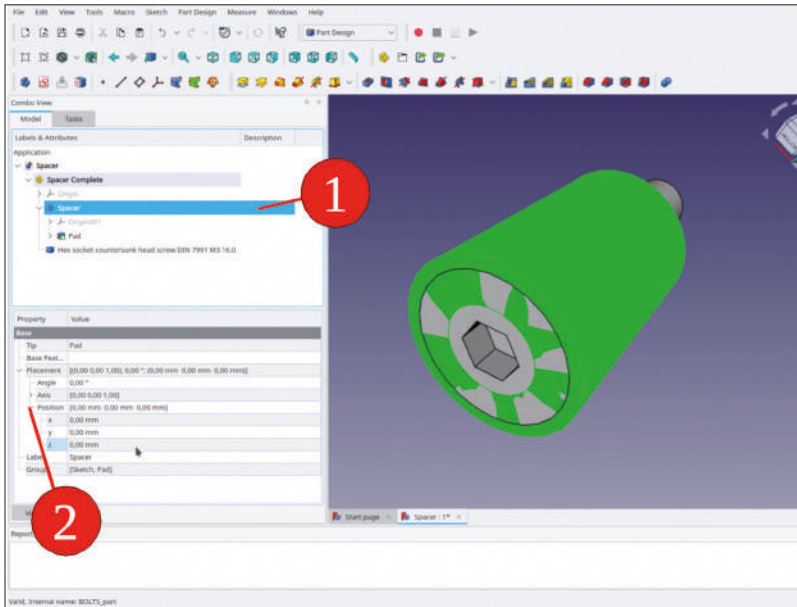

Figure 4-12
5. After the move, the screw appears as an object embedded in 'Spacer Complete' (Figure 4-12). In the Property list, only 'Placement' parameters are listed.
The body of the screw is thus only placed, and not attached to other bodies. You can expand the property list by using the arrow keys on the left-hand side (Figure 4-12). The arrows allow you to navigate to the z coordinate (listed in the item 'Position'). Here, usually the usual thickness for a chassis plate could be entered. Once the edit field next to a coordinate identifier is clicked, it is also possible to manipulate the displayed values with the mouse wheel. In this way, screws could be 'tightened' also later on.